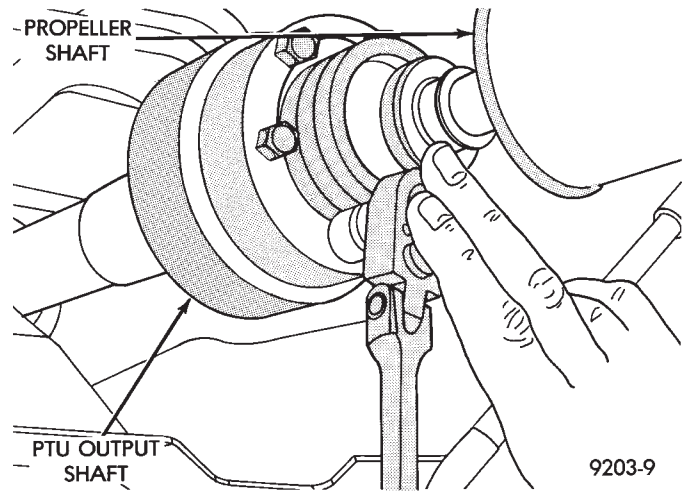

Fig. 2 Propeller Shaft Bolts (Front)
(3) Remove propeller shaft front mounting bolts and remove propeller shaft assembly (Fig. 2)